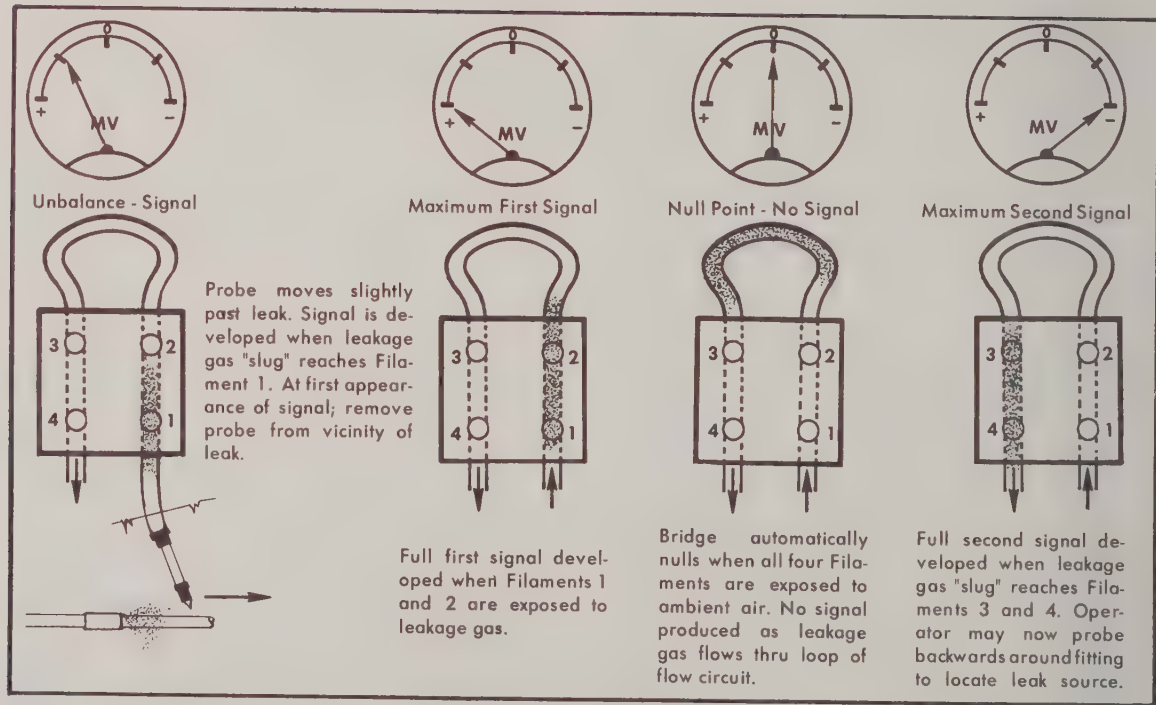

Fig. 4 Case A; Double Signal of Short Duration Caused by Medium Leak and/or Fast Probing of Leak Area
- A. A double signal, both of short duration, due to a medium leak or a high probing rate (Fig. 4).
Figures 4 through 6 illustrate leak signals obtained under conditions outlined in A, B, and C. For clarity, the electrical circuit has been omitted, and the flow circuit, though simplified is equivalent to the existing one. The signal output is represented as a galvanometer to illustrate the electrical magnitude and direction of the signal produced as leakage gas passes over all four detector Filaments.
WHEN REFERRING TO FIGURES 4 THROUGH 6, ASSUME THE BRIDGE CIRCUIT HAS BEEN BALANCED WITH THE NULL BALANCE CONTROL ON AMBIENT AIR PRIOR TO PROBING. Ambient air is represented as white while gray shading is leakage gas entrained in the Flow Circuit as the Probe is passed over a leak. Ambient air may be defined for purposes of these Instructions as the background gaseous composition surrounding the equipment to be leak tested. In many applications this air will be contaminated by leaking gas from the